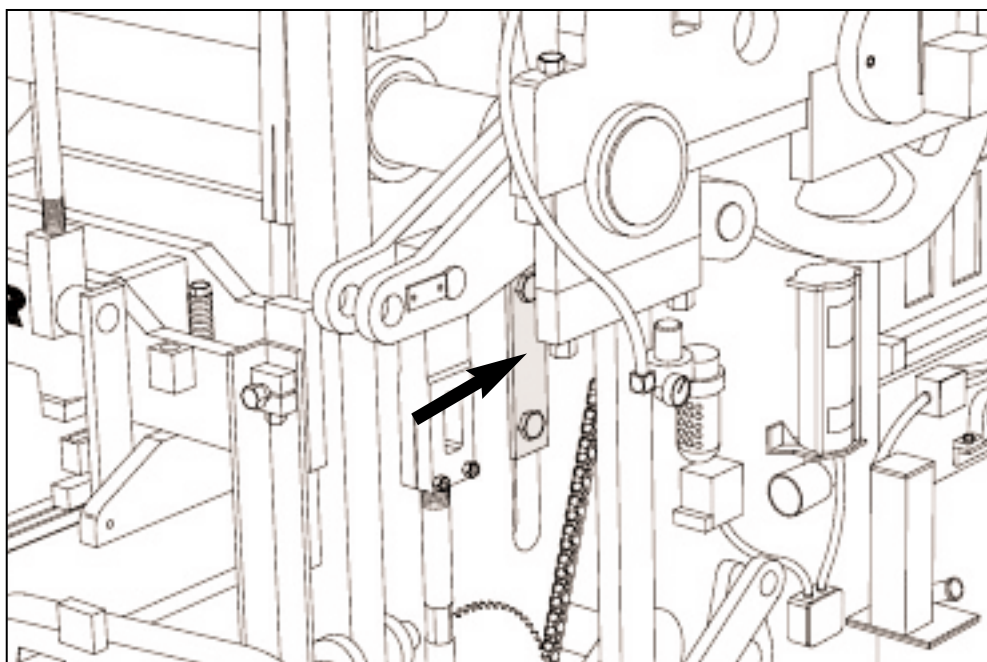

Figure 4.6 LOOSEN "T" CLAMPS ON BOTH SIDES.
a. Loosen the "T" clamps on each side of machine that secures machine side plate to mold throat plate. (Figure 4.6)